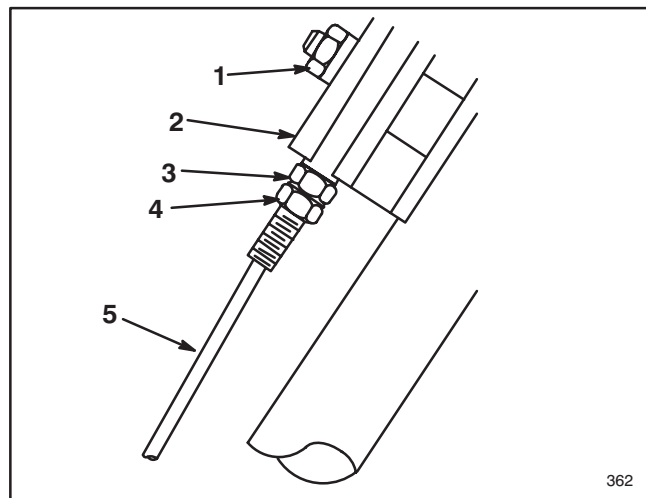

Figure 20
2. Loosen nut on support block (Fig. 20).
3. Loosen bottom jam nut on wheel traction cable (Fig. 20).
8. Top jam nut should be against support block when adjustment is complete (Fig. 20).